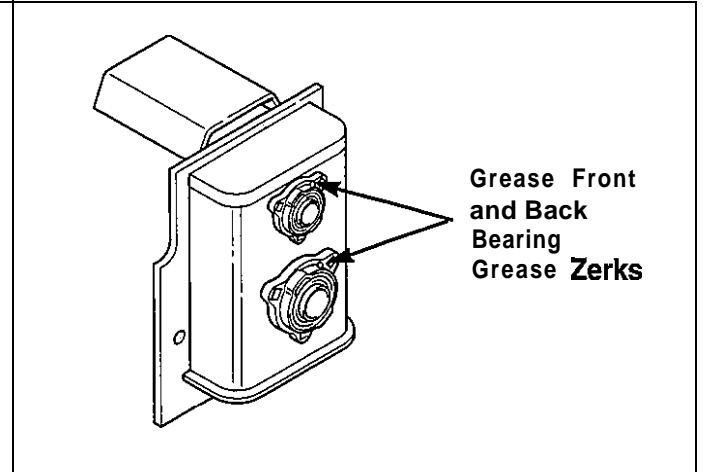

Figure 2. Grease Bearings
2. Grease the front and back bearing grease zerks (see Figure 2).